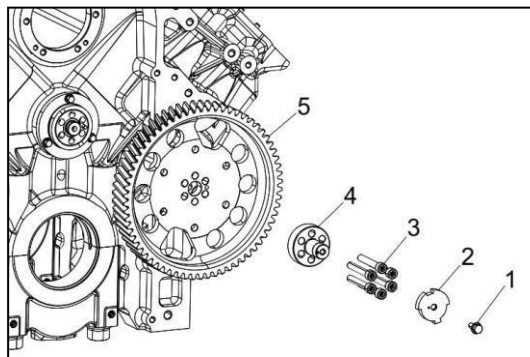

Figure 143
3. Apply a film of Loctite 242 to the fastening bolts (Figure 143, 3) and tighten the bolts.
4. Install the signal panel (Figure 143, 2).